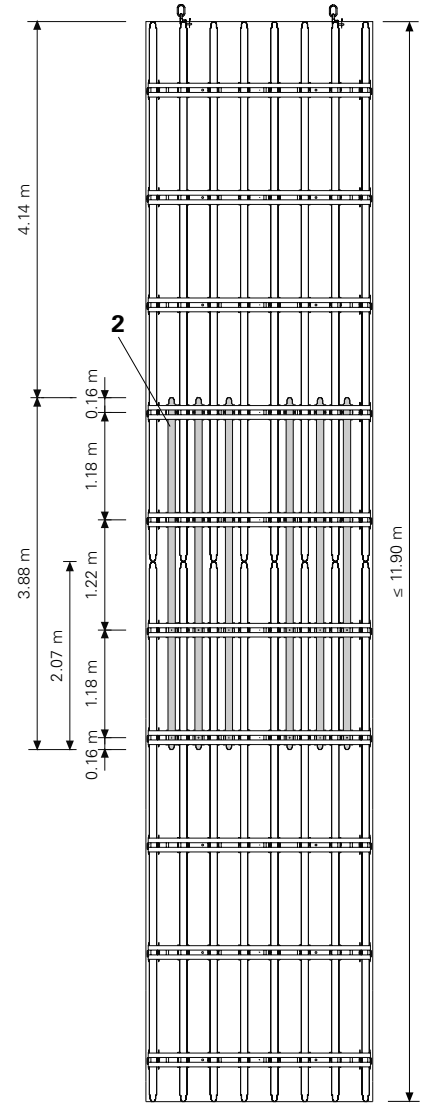

Fig. B10.05
With additional overlap girders (2) for heights of up to 11.90 m. (Fig. B10.05)